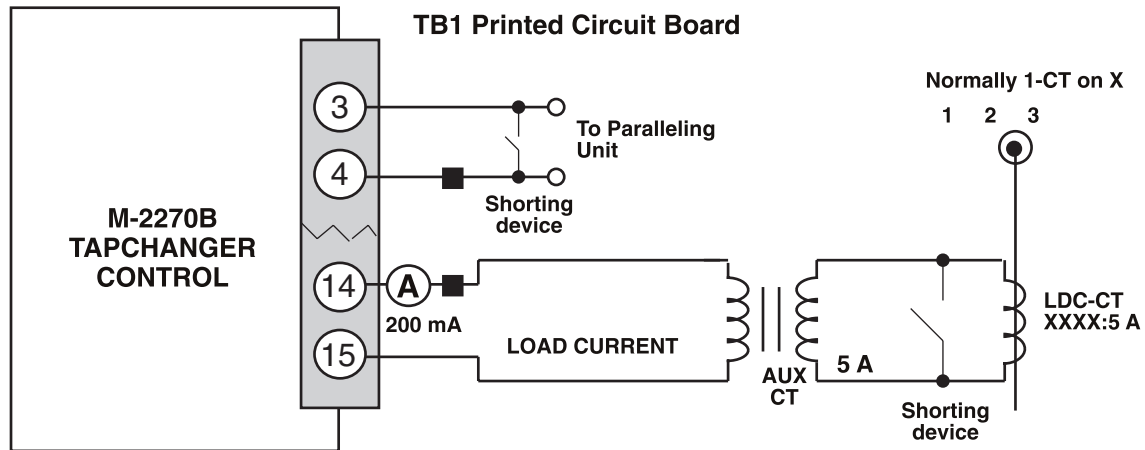

Figure 11 Setup for Current Checkout Procedure
5. As shown in Figure 11 temporarily place a shorting device across the LDC-CT secondary to short the line drop compensator circuit, and place another shorting device across TB1-3 and TB1-4 to short the circulating current paralleling input, for the load current check. Insert an ammeter between the polarity input and TB1-14. Open the load current shorting device and with a known load on the transformer or regulator, measure the current in the load current circuit to ensure that this current is correct for 0.2 A full load.